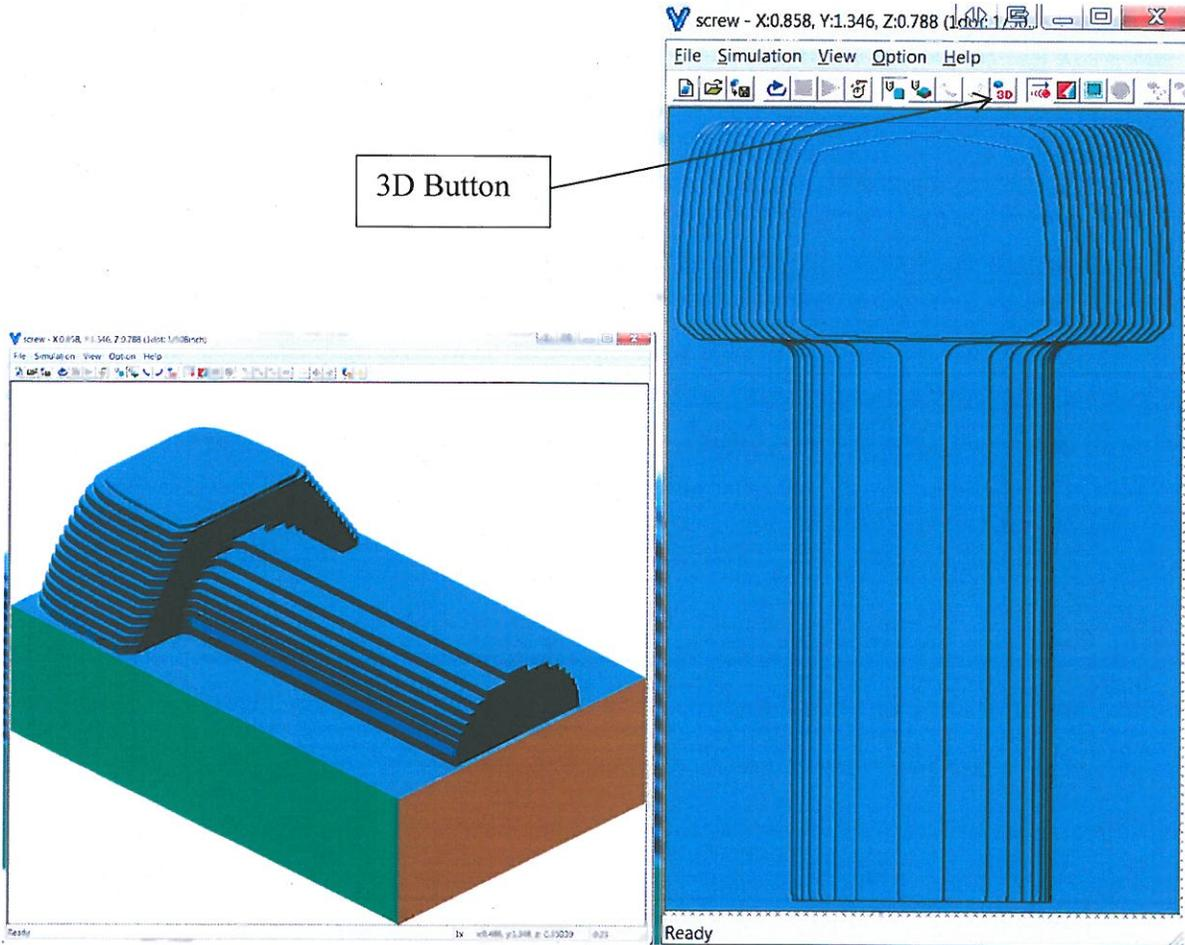

Figure 14: Rendered Images of the Milling Results
10. To see a render of the model go to **File–Output Preview**. To change to a 3D view, press the **3D BUTTON** on the menu bar (Figure 14).